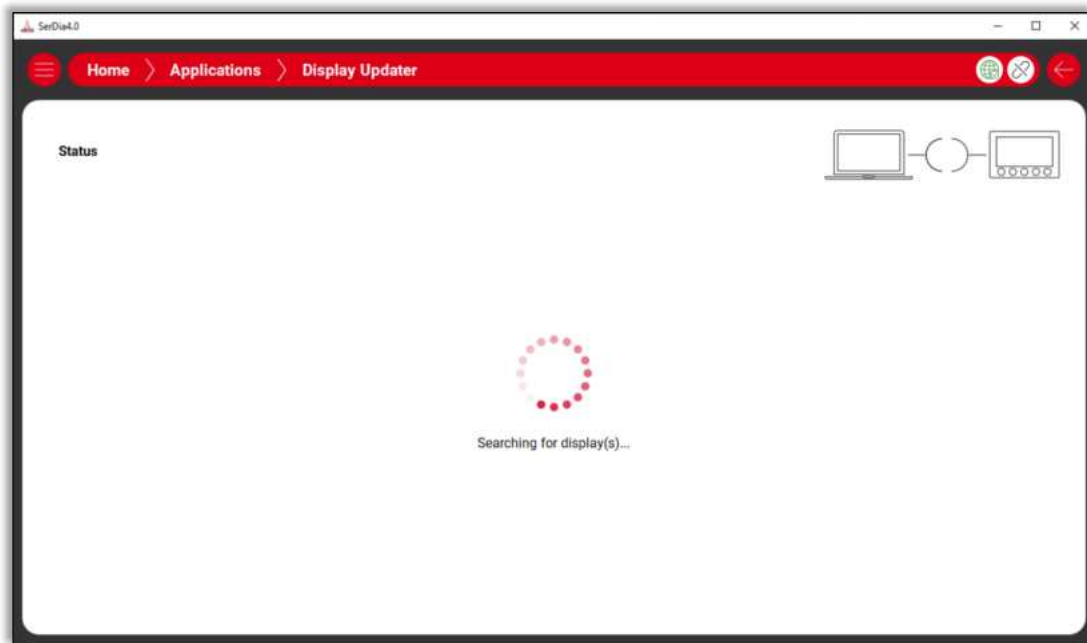

Fig. 91: Display detection
5. The updater will now automatically search for a display. Wait until all necessary information has been read out (Fig. 91).